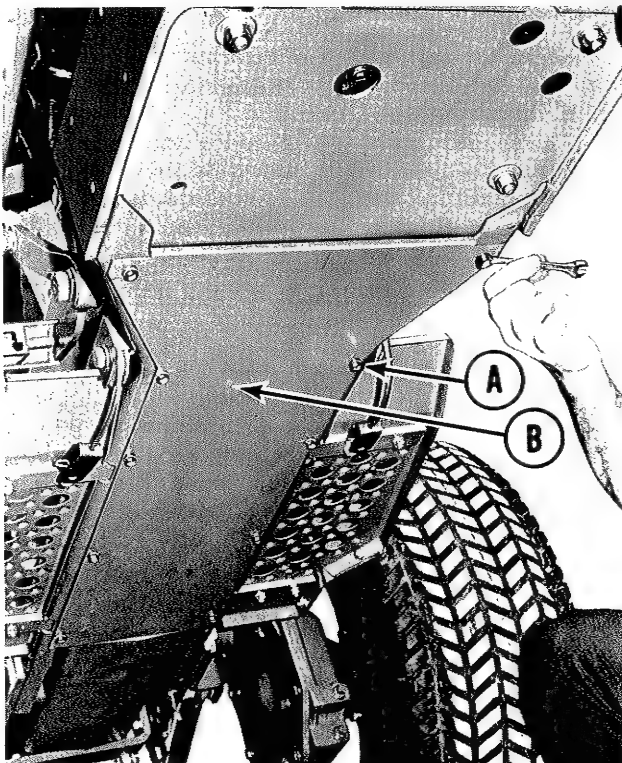

Figure 11. Dust shield on underside of tractor frame.
1. See figure 11. Using a 3/8" wrench, remove the 10 cap screws (A) holding the dust shield (B) to the underside of the tractor frame.
2. See figure 11. It is not necessary to remove this shield, but the locking nuts on the ends of the turnbuckle are more easily reached from below. Using a 3/8" wrench remove the 10 capscrews (A) holding the dust shield (B) to the underside of the tractor frame.
1. See figure 11. Remove the ten capscrews and dust shield from the underside of the tractor frame.